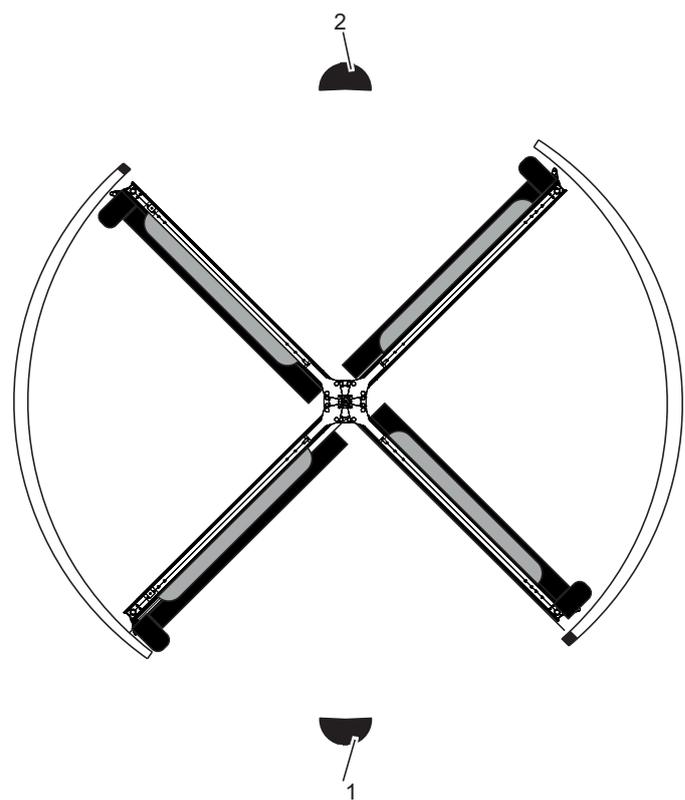

Fig. 125 Motion sensor
6. Connect and fit motion sensors at entrance (Fig. 125/1).
7. Connect and fit motion sensors at exit (Fig. 125/2).